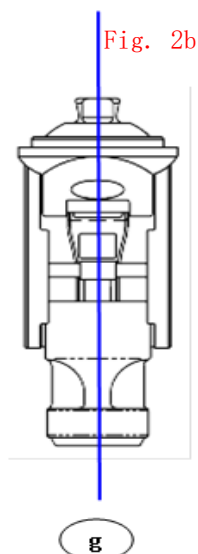

Fig. 2c
c) With prosthesis donned, the weight line should pass through the centerline of the knee in the Coronal or M/L plane (Fig. 2c). Excessive outset or inset will put undue stress on the knee joint.